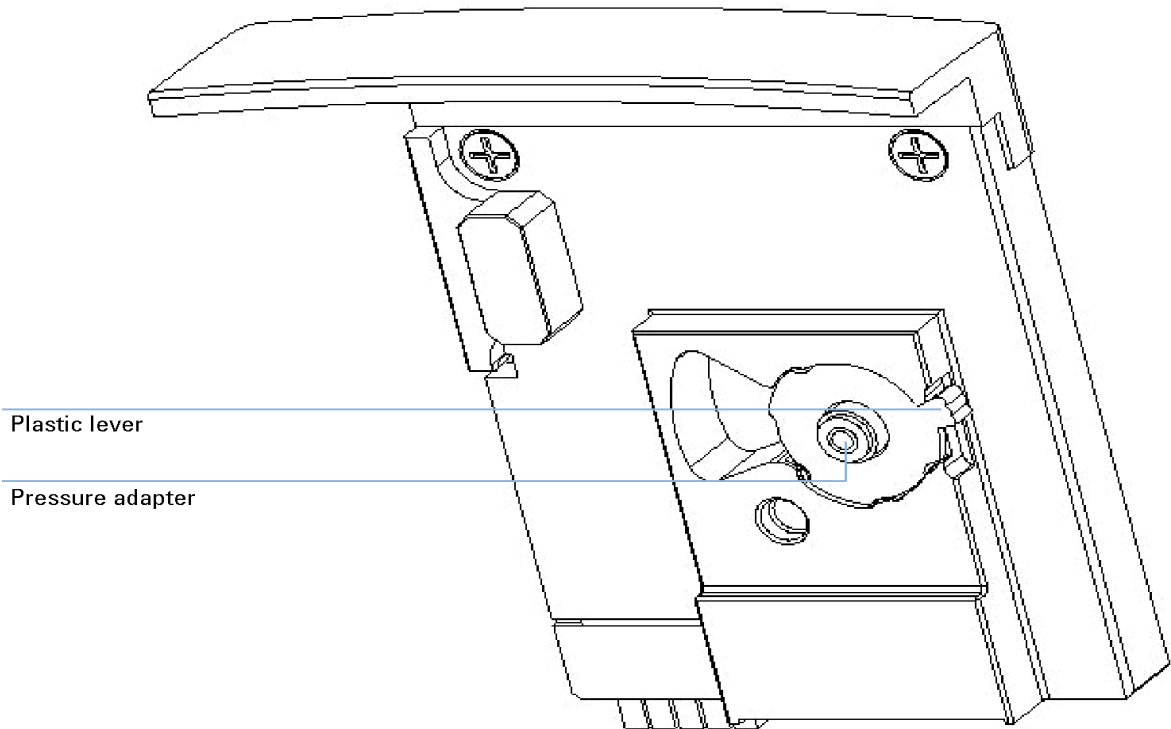

Figure 12 Pressure cartridge with pressure adapter
- 4 Move the plastic lever of the ring holding the adapter in place to the left as shown in Figure 12 on page 180. The ring will come off.